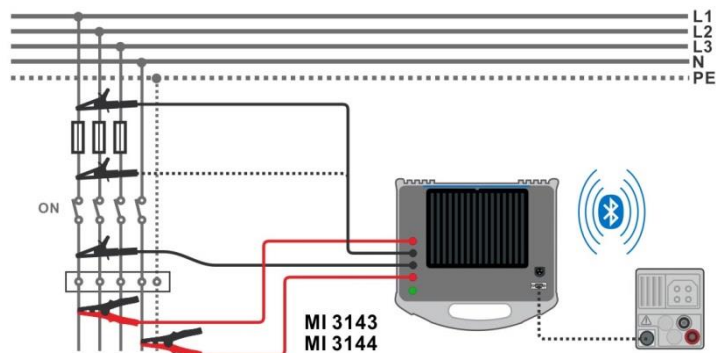

Figure 7.50: High Current resistance measurement
- ▶ Connect MI 3152(H) instrument with MI 3143 or MI 3144 Euro Z adapter / instrument via serial RS232 or pair them using Bluetooth communication. See chapter **4.6.5.1 Selection and configuration of measuring adapters**.
- ▶ Check Bluetooth communication active sign if MI 3143 or MI 3144 Euro Z instrument is connected to MI 3152(H) instrument via Bluetooth communication.
- ▶ Connect test leads to the object under test. See **Figure 7.50**.